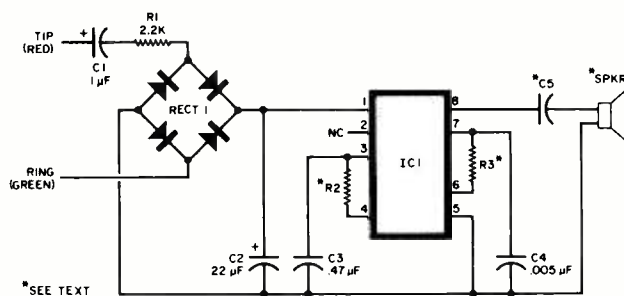

Fig. 1. The tone generated by *IC1* is about 575 Hz.
The tone ringer is based on *IC1* (Fig. 1) a two-tone oscillator whose power supply and interface were designed specifically to be used with the telephone system (so no dc power supply is required). Up to four tone ring-
**Circuit Operation.** On a non-busy telephone line, about 50 V dc is present between tip and ring (red and green wires, respectively). As shown in Fig. 1, capacitor *C1* blocks this dc voltage in the normal "hung-up" state. To ring the telephone, an ac voltage between 85 and 125 volts (peak-to-peak) is applied between tip and ring (the "ring wire" is not to be confused
Capacitor *C5* couples audio to the speaker. The *IC1* manufacturer recommends the use of a 1000-to-8-ohm transformer with a 15-kilohm resistor across the primary. Acceptable performance has been obtained with the direct connection illustrated in Fig. 1. If a slight volume increase is desired, the transformer may be used.